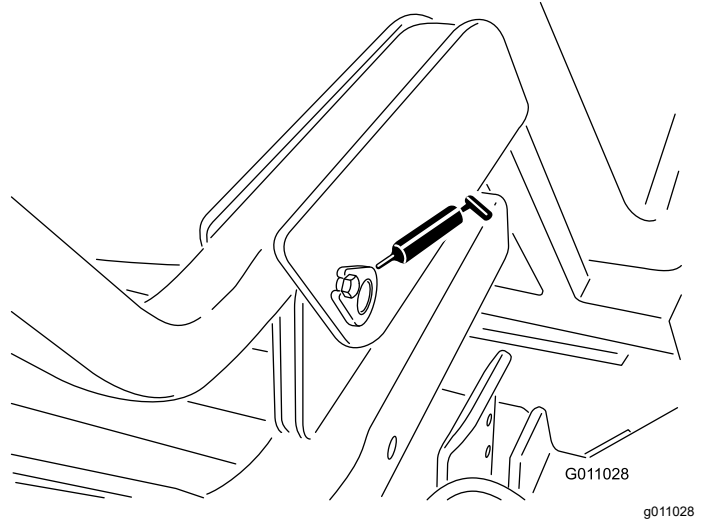

Figure 36
- Hopper pivot (lower) (2) (Figure 36)